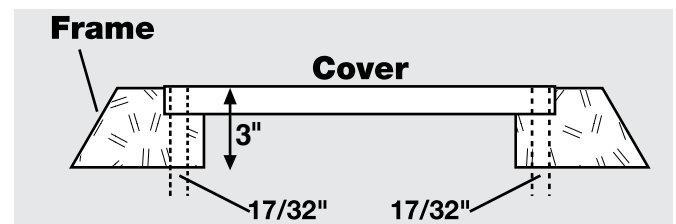

Figure 2
STEP 2: Drill 17/32" (for 5/8-11 thread) or 27/64" (for 1/2-13 thread) hole through COVER AND FRAME (Approximately 3" minimum drill depth required to create hole through cover and frame. See Figure 2)